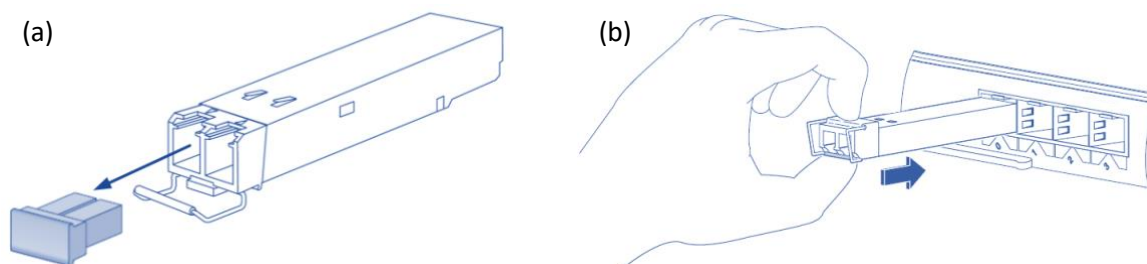

Figure 14 – SFP+ Module Installation.
2. Remove the dust plugs from the module as shown in figure 14 (a).
5. Line up the module with the port and slide it into the port as shown in figure 14 (b).